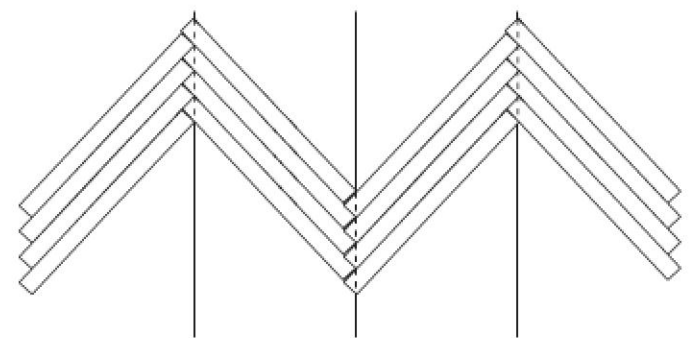

Figure 7
- 3** Use the fine-tooth saw to cut the bamboo into 10 16-inch lengths. Split the bamboo in half lengthwise, creating 20 pieces. Arrange the halves on the seat in a herringbone pattern, as shown in figure 7, adjusting them to get a close fit and an even surface. Cut and split the remaining bamboo, and use it to complete the surface pattern.